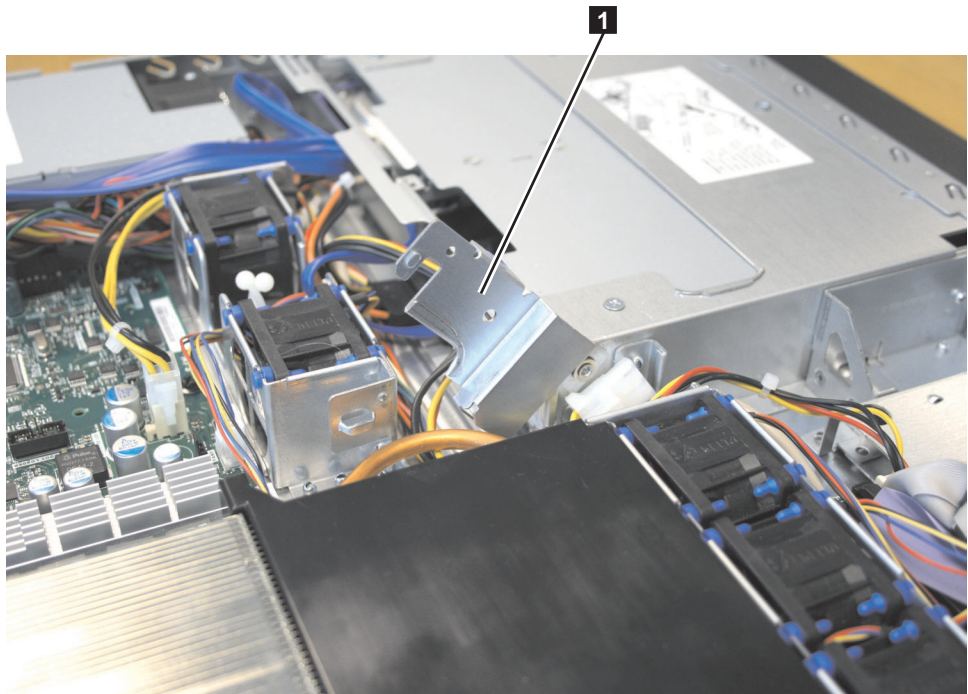

Figure 155. Air deflector for the SAN Volume Controller 2145-8A4 power supply
4. Make sure that the air deflector **1** is in the open position, as shown in Figure 155.